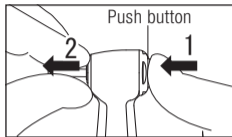

Fig. 3
Depress the push button to open the chuck (1) and remove the bur (2). (Fig. 3)